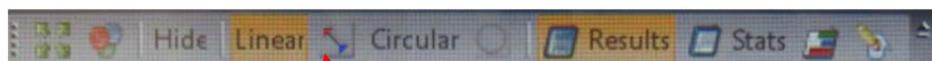
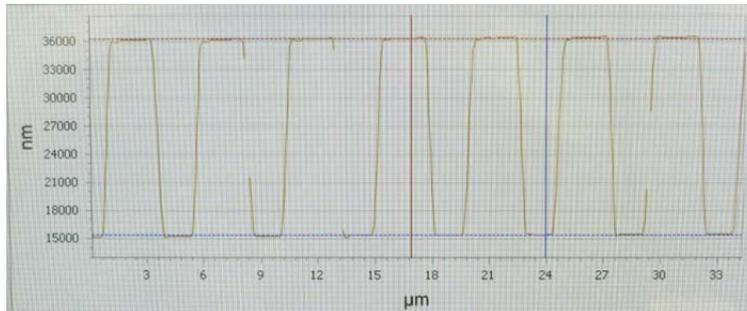

Figure 7
Figure 8
2. On the left side of the center image, you can see some function buttons as shown in Figure 7. Use the arrow button to draw a line across the points of interest on your topography. The cross-section profile of your sample at this line will be displayed at the bottom of the screen as shown in Figure 8.